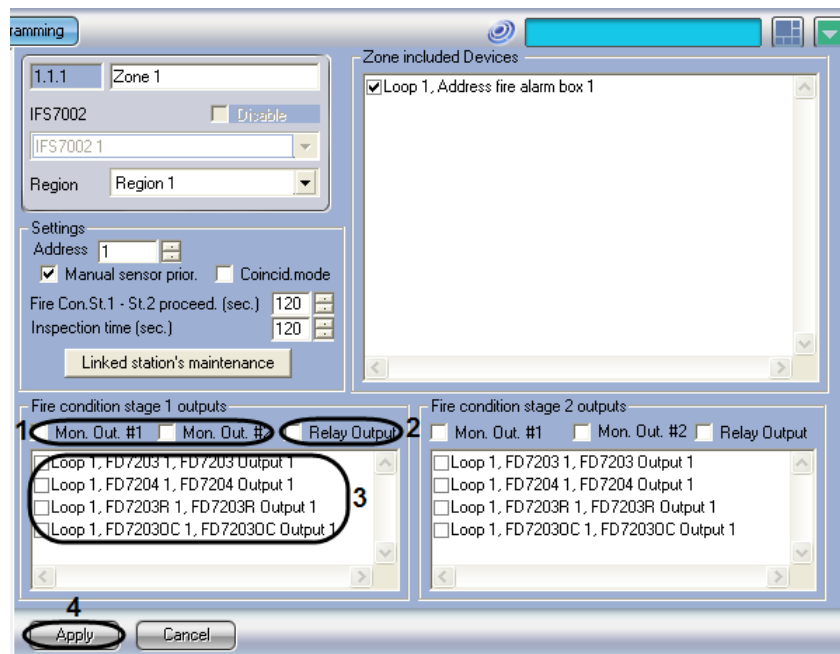

Fig. 3.7—6 Configuring the outputs that will be employed under Fire Condition 1 in a zone.
1. Go to the settings panel of the “Zone” object (Fig. 3.7—6).
2. If the external devices controlled by the controllable outputs of the IFS7002 FCP must be employed under “Fire Condition 1” then check the required “Mon. Out.# ..” checkboxes in “Fire Conditions Stage 1” group (see Fig. 3.7—6, 1).
3. If the external devices controlled by the relay output of the IFS7002 FCP must be employed under “Fire Condition 1” then check the “Relay output” checkbox in “Fire Conditions Stage 1” group (see Fig. 3.7—6, 2).